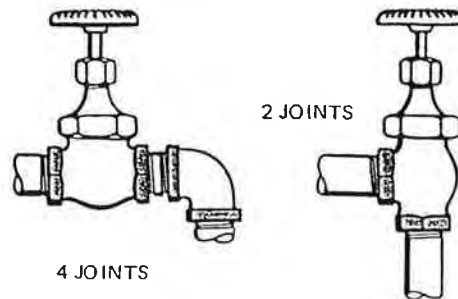

Fig. 7-5. Use of angle valves.
7.19 The ANGLE valve shown in Fig. 7-2 has the same basic design as the globe valve. As shown in Fig. 7-5, its use reduces the number of joints required where a valve is needed near a right angle change in direction of the pipe line.